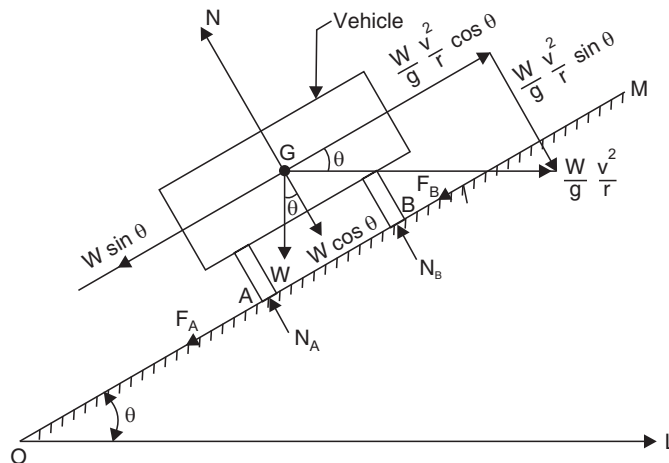

Fig. 11.7
**(c) Maximum speed to avoid skidding on a banked road.** Refer to Fig. 11.7. Let  $N$  be the total normal reaction on the vehicle =  $N_A + N_B$ .